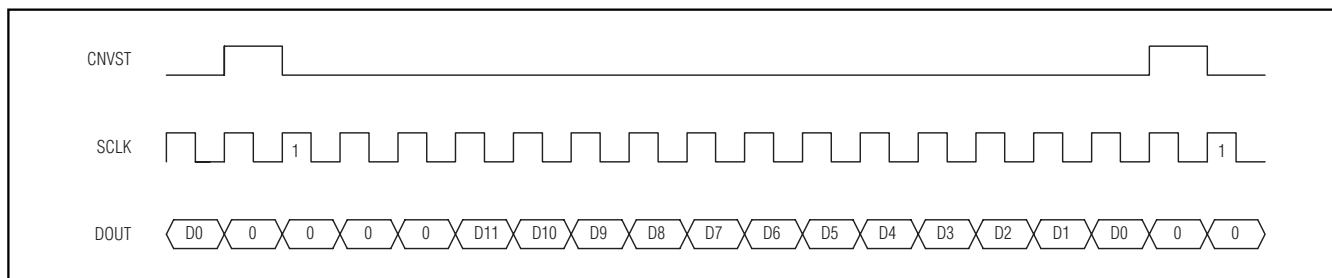

Figure 17. DSP Interface—Continuous Conversion
The MAX1276/MAX1278 can also be connected to the TMS320C54_ by using the data transmit (DX) pin to drive CNVST and the CLKX generated internally to drive SCLK. A pullup resistor is required on the CNVST signal to keep it high when DX goes high impedance and 0001hex should be written to the DXR continuously for continuous conversions. The power-down modes may be entered by writing 00FFhex to the DXR (see Figures 17 and 18).
and for an active-low frame (LTFS = 1, LRFS = 1) signal. This is also the best way to enter the power-down modes by setting the word length to 8 bits (SLEN = 1001). Connect the V_L pin to the ADSP21_ _ _ supply voltage when the MAX1276/MAX1278 are operating with a supply voltage higher than the DSP supply voltage (see Figures 17 and 18).